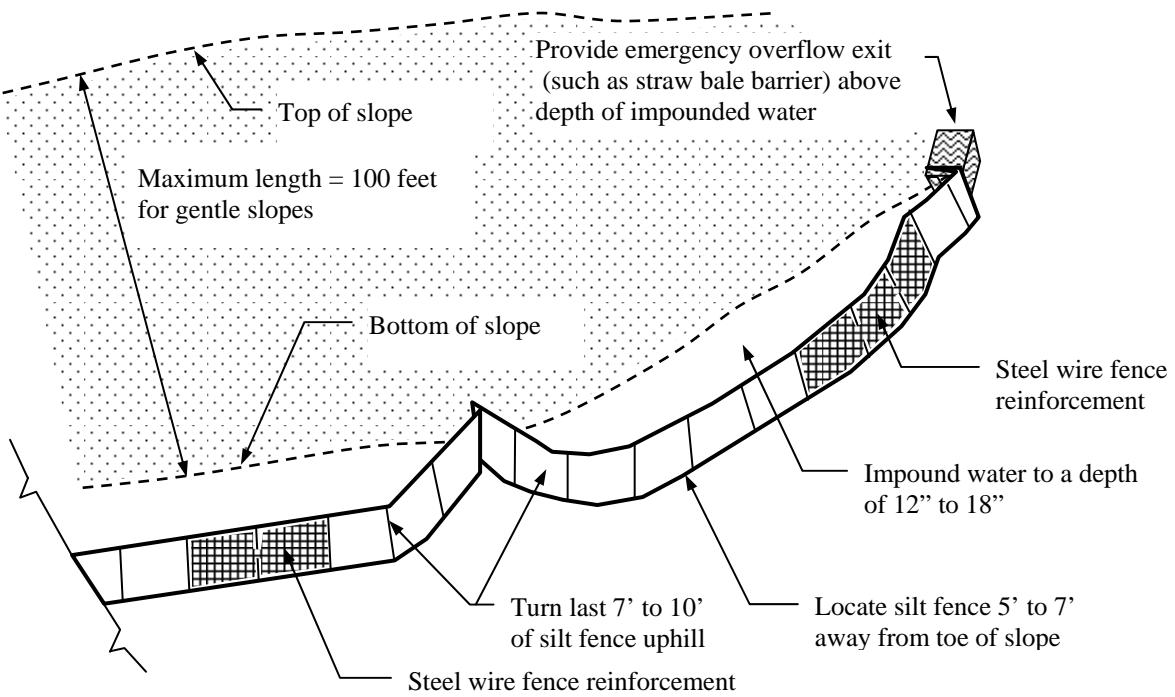

Figure ES-14-3
- Locate silt fence at least 5 to 7 feet beyond the base of steep slopes. In locations at the bottom of a slope, turn the ends of the silt fence upslope so that a certain depth of stormwater may be retained in front of the silt fence. The impounded depth should be at least 12 inches but less than the silt fence height. Install straw bale barriers at the end of the silt fence row as an “emergency overflow” to allow detained water to be filtered quickly. See Figure ES-14-3 for a typical layout using straw bales at the end of silt fence.
- Place silt fence at least 5 to 7 feet away from steep or long slopes to impound stormwater runoff. See Figure ES-14-3.